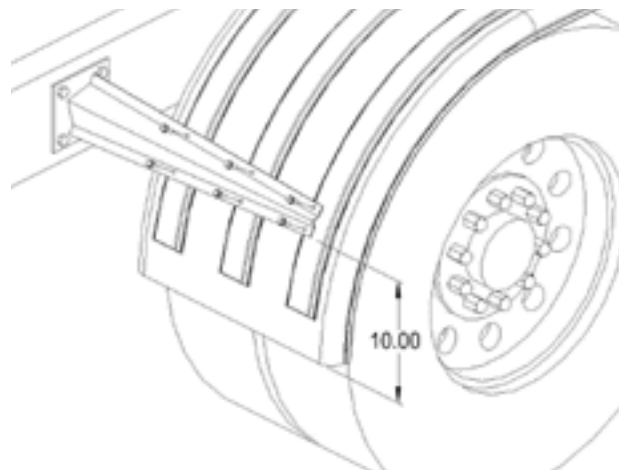

Figure 4
- Before welding bracket or bolting mounting plate, make sure the brackets are within 10" of the bottom of the fender to avoid wind blowing the fender back into the tire. If the front fender bracket is mounted higher than 10", run a piece of steel strapping on the inside of the fender to give it extra strength (see Figure 4). When brackets are in position, weld bracket or bolt mounting plate to frame.